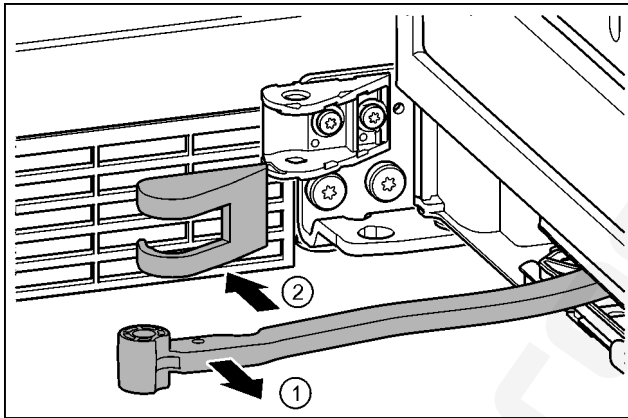

Fig. 18
- Turn the hinge in the direction of the door. Fig. 18 (1)
- Remove the bearing bracket cover. Fig. 18 (2)